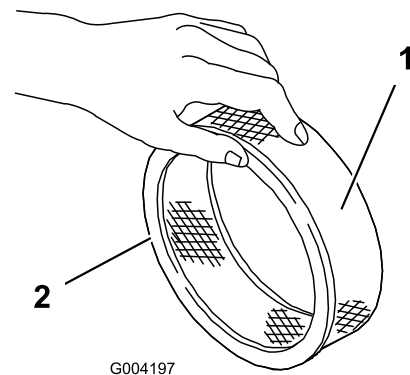

Figure 15
5. Inspect the paper filter for tears, an oily film, and damage to the rubber seal (Figure 15).
1. Carefully slide the foam pre filter onto the paper filter (Figure 15).